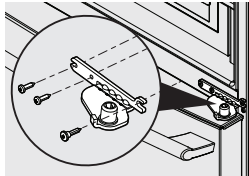

Figure 5
5. To gain access to lower hinge, drawer will need to be extended. Unscrew the three lower hinge screws and slide the hinge inwards. See Figure 5.